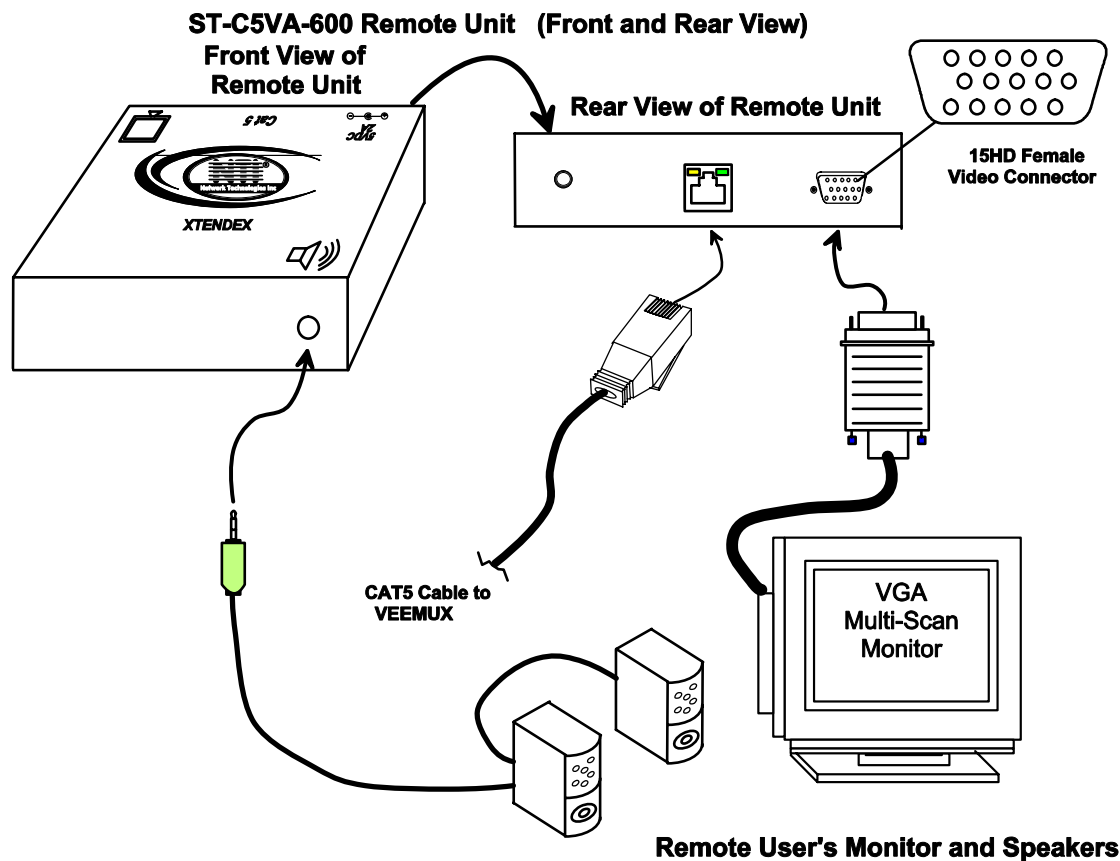

Figure 3- Connect the Extended Components to the Remote Unit
3. Connect the speakers to the 3.5mm jack on the Remote Unit (see Fig. 3).
4. Connect the CAT5 cable to the “Cat 5” port on the Remote Unit. (See Fig. 3.) When properly inserted the CAT5 cable end should snap into place.